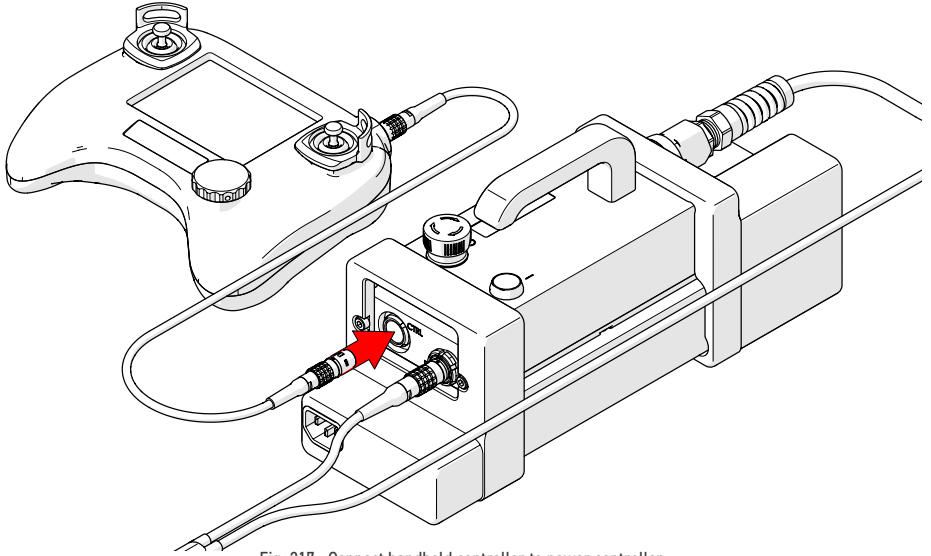

Fig. 217 - Connect handheld controller to power controller
17. Connect the handheld controller to the power controller using the auxiliary cable (Fig. 217).